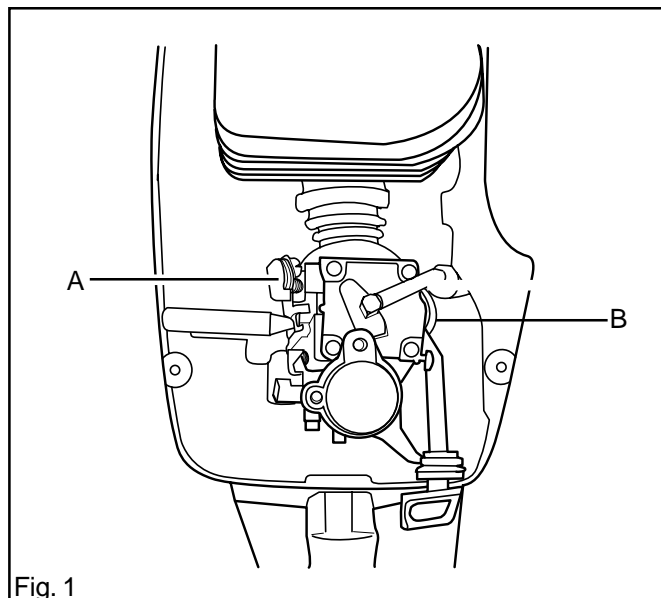
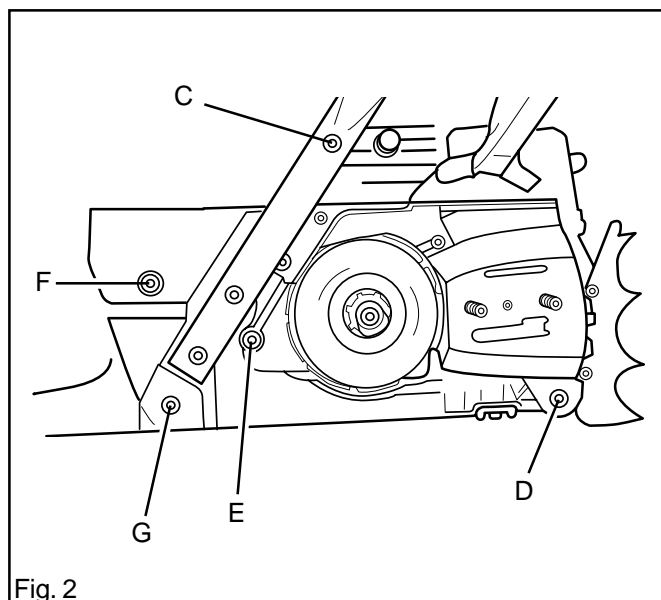

Fig. 1
Fig. 2
3. Unhook the throttle cable (A) from the carburettor and push out the cable casing from its attachment. See fig. 1.
4. Remove the fuel pipe (B) from the carburettor.
5. If the chainsaw is fitted with hand grip heating, release the cable at C. See fig. 2.
6. Remove the bolts (C, D, E and F). See fig. 2.
9. If the tank guard (chain deflection/break) (G) is damaged, it must be replaced. See fig. 2.